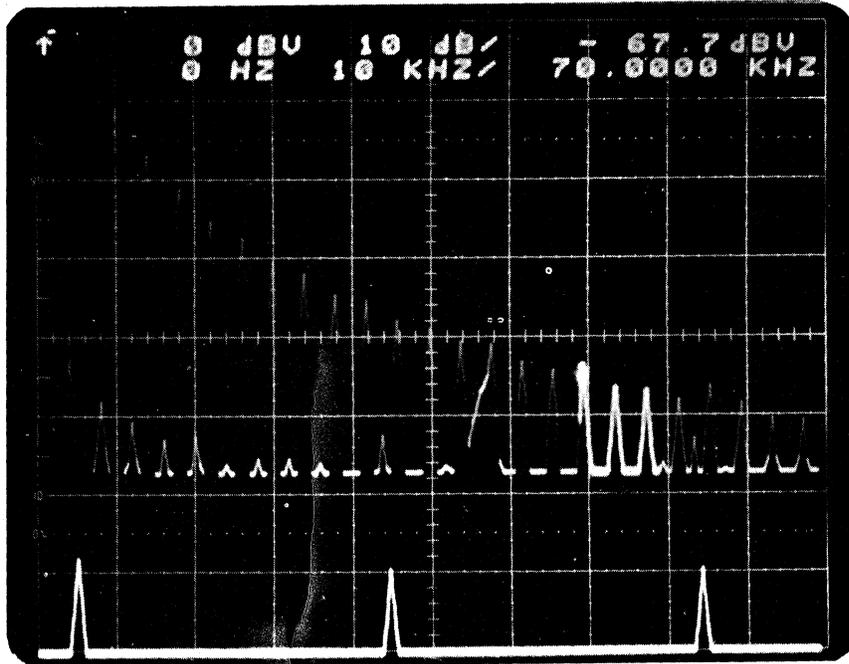

Fig. 4-14c Example of the Use of Cursor-Reads Switch.
- c. Set READS on BACKGROUND and move marker to 70.000 KHz (Fig. 4-14c). The readout of amplitude should be nominally the same as for the foreground. The readout corresponds to the background for the 0 - 100 KHz span.